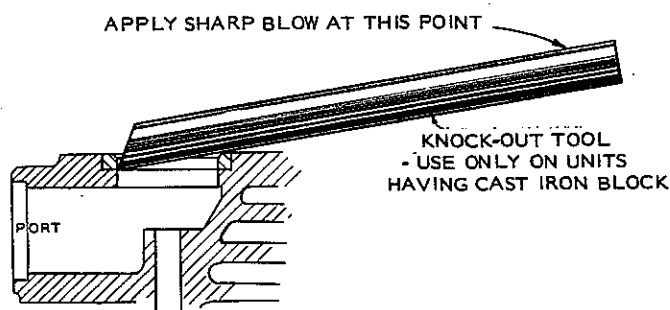

FIGURE 15-11. VALVE SEAT REMOVAL
1. For engines with cast iron cylinder blocks (except J-series) use the knockout tool as shown in Figure 15-11. Insert tool under valve port side of the valve seat with the square end extending over the cylinder bore. With the sharp edge of the tool at the joint between the seat and its recess in the cylinder block, strike the end of the tool a sharp blow with a light hammer. This blow should crack the seat insert, after which it may be removed.